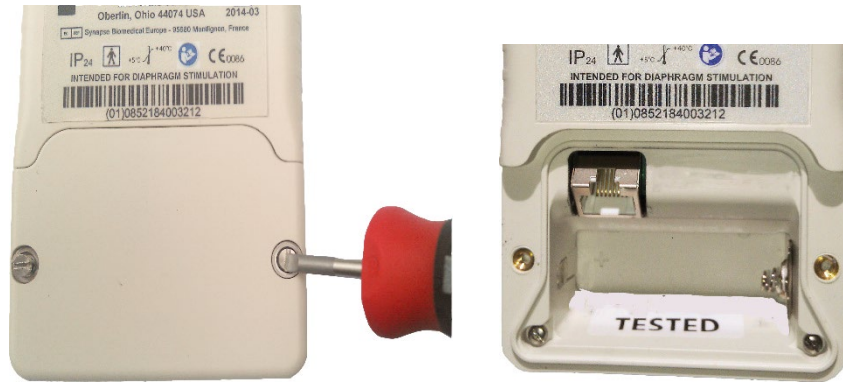

Figure 3.
3. Use the provided flat blade screwdriver to loosen the screws on the back bottom of the NeuRx EPG and remove the battery cover.(Figure 3).